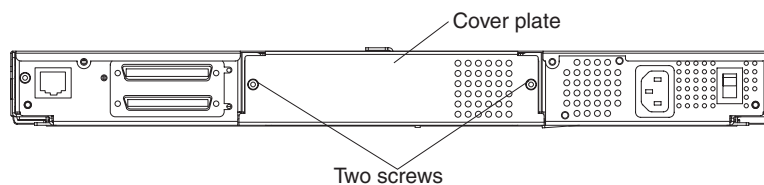

Figure 24. Removing the Tape Drive Cover Plate
- \_\_\_ 6. Using a #1 Phillips screwdriver, remove the two screws securing the cover plate (see Figure 24). Set the cover plate and screws aside.